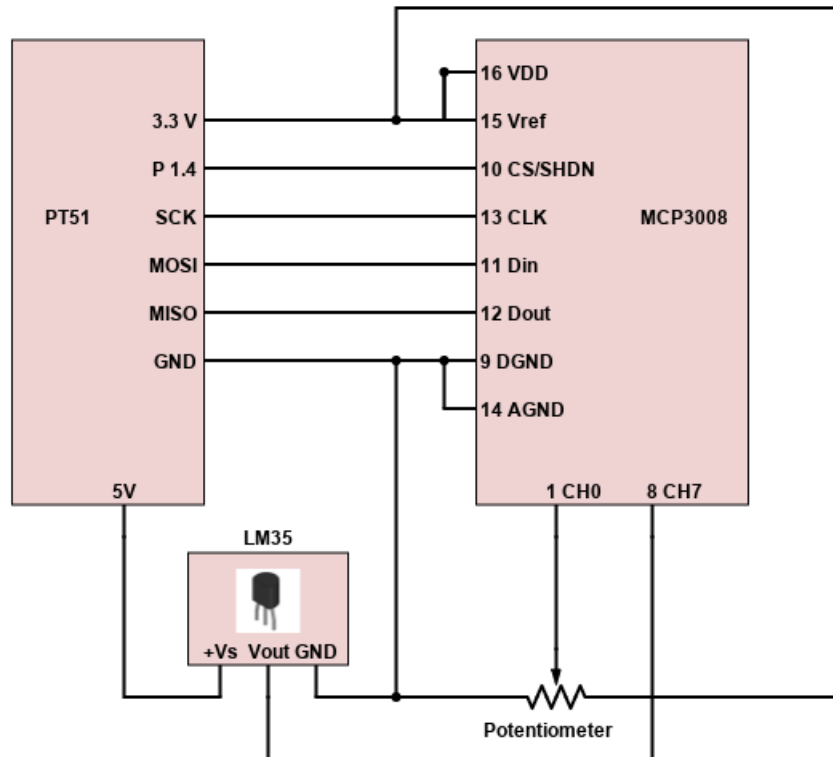

Figure 2: Pt51 interfacing with ADC and temperature sensor.
- iii) Once the ADC setup is verified using the potential divider circuit, it can be used for sensing and displaying the temperature in $^{\circ}\text{C}$. Connect the sensor output to `CH7` of the ADC as shown in Fig. 2. This setup measures the voltage output from the sensor and displays the measured room temperature on the LCD. The output provided by the sensor is $10\text{mV}/^{\circ}\text{C}$. Uncomment and update the relevant sections in `main.c`, compile